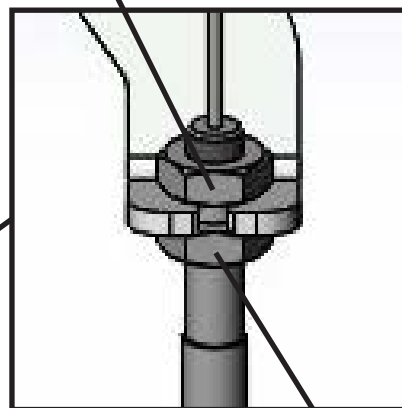

Figure 15
- 2. For optimum release handle position, adjust the cable length so the latch releases when the handle is near the top 80% of range of motion. See Figure 15.